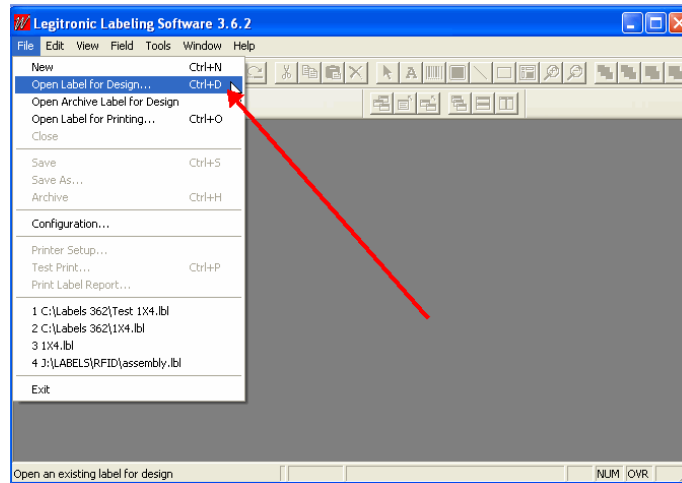

Figure 4-9
4.3.1. Click *File > Open Label for Design*. (Figure 4-9)